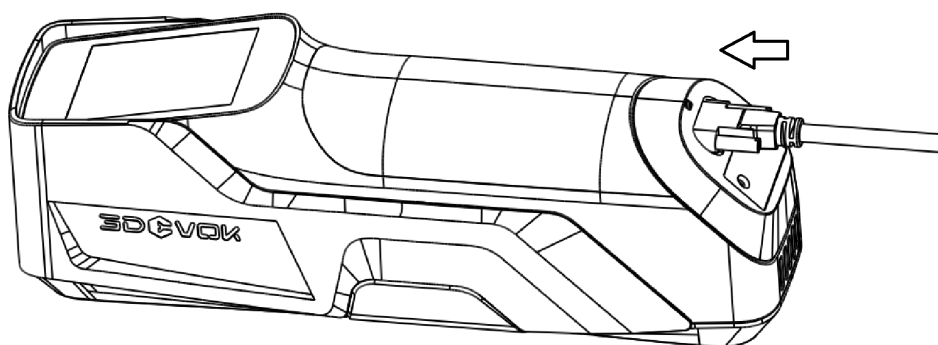

Figure 4-6 USB Cable Connection for Device
1. Connect one end of the USB cable to USB 3.0 port (the blue port) of PC (if it is a desktop, it should be plugged into the USB 3.0 port at the back of the chassis), then connect the other end to the bottom of the device (in the direction of the arrow), and tighten the screw, as shown in Figure 4-6.